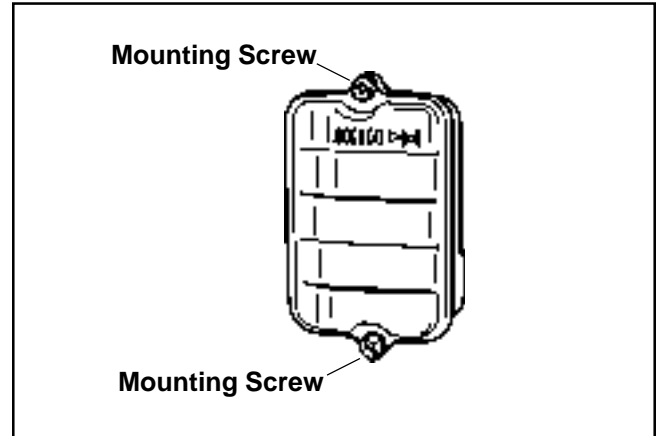

Figure 4-16. Mounting Details.
1. Remove the two screws and the outer air cleaner cover/housing. See Figure 4-16.
7. Reinstall the outer cover and secure with the two screws. See Figure 4-16.